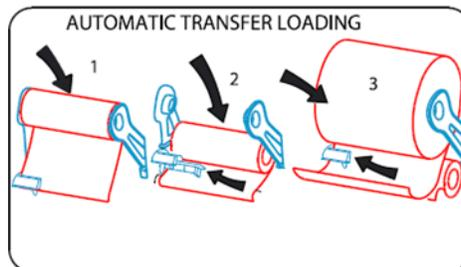

Fig. 7
1. Transfer 4" diameter [Ø102] (or smaller) stub roll from wire holders (Fig. 7, step 1) without removing paper from rollers to the stub roll holders located in the bottom back of the mechanism and the Stub Roll Paper Monitor must be positioned over the stub roll paper web without any wrinkles in the web, as indicated by arrow in Fig. 7, step 2 above.
2. Install new full paper roll into wire holders (Fig. 7, step 3) with paper end unwinding from the back of the roll and place the paper end on **TOP** of the Stub Roll Paper Monitor & **UNDER** the transfer bar arm as shown in Fig. 7, step 3 above. Paper from the new roll will automatically feed when the stub roll of paper runs out.